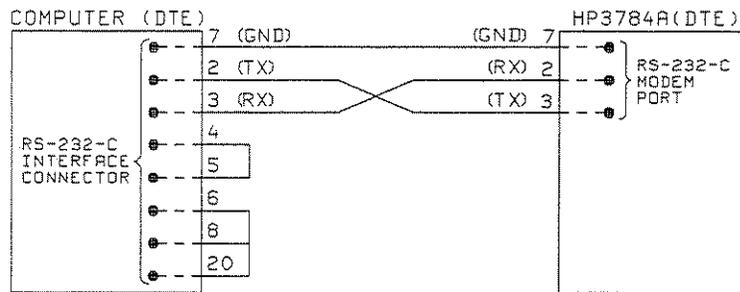

Figure 2-1 Cabling for Computers Configured as DTE
If you have used or know your computer can be used to communicate with a modem, then its interface is almost certainly configured as Data Terminal Equipment (DTE). The configuration for a hardwired connection in this case is as shown in Figure 2-1. Note the TX and RX lines are crossed.
1. Connect the instrument and computer as shown in Figure 2-1 (for computers configured as a DTE). Useful part numbers of RS-232-C cables are contained in Table 2-1, Page 2-14.